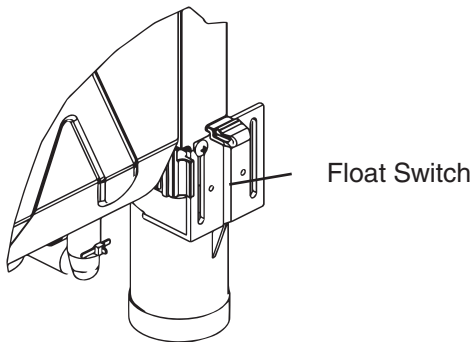

Fig. 7
- 5) Remove the water tank. Next, remove the screw securing the FS, then remove the FS. See Fig. 7.